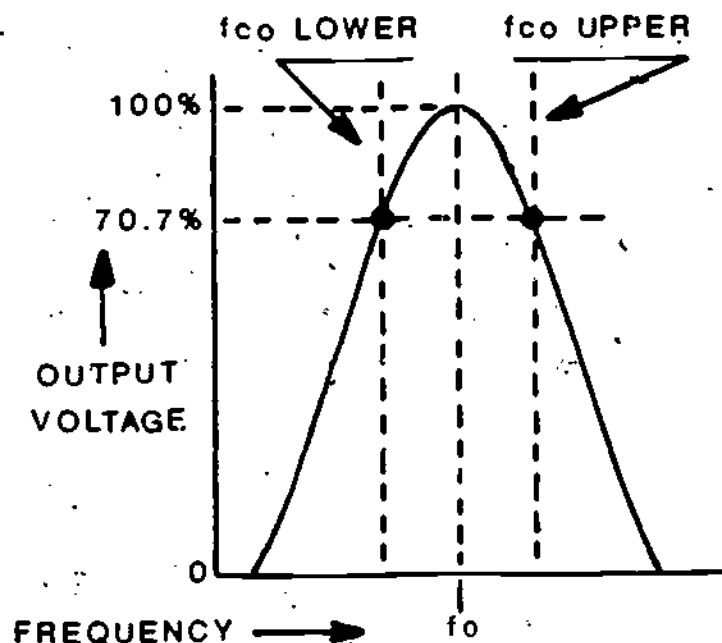

Figure 3
6. If our input frequency varies either above or below the center frequency of the amplifier, the signal will still be amplified, but to a lesser amount than at F_o . Figure 3 shows the amplitude of the output voltages at various frequencies of the input voltage.